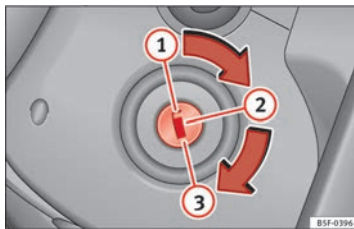

Fig. 113 Ignition key positions.
In this position ⇒ Fig. 113, the ignition and the engine are OFF and the steering may be locked.
- Turn the ignition key to position ⇒ Fig. 113 ②. The warning lamp  will light for engine pre-heating.
- When the lamp turns off, turn the ignition key to position ③ to start the engine. Do not press the accelerator.
- Turn the ignition key to position ⇒ Fig. 113 .